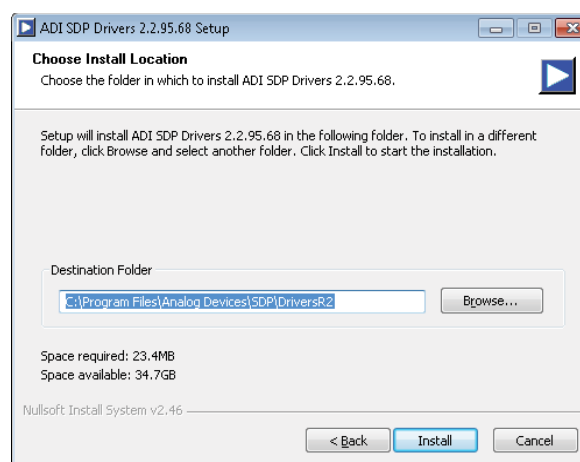

Figure 11. Choose Installation Location
3. Click **Browse** and choose the installation location, and then click **Install**. The default folder is shown in Figure 11.